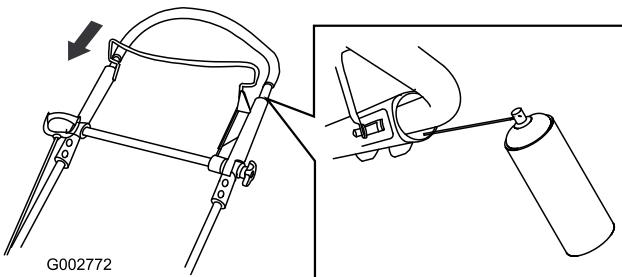

Figure 47
- Push the upper handle fully down and spray the inner plastic surface of the outer handle (Figure 47).